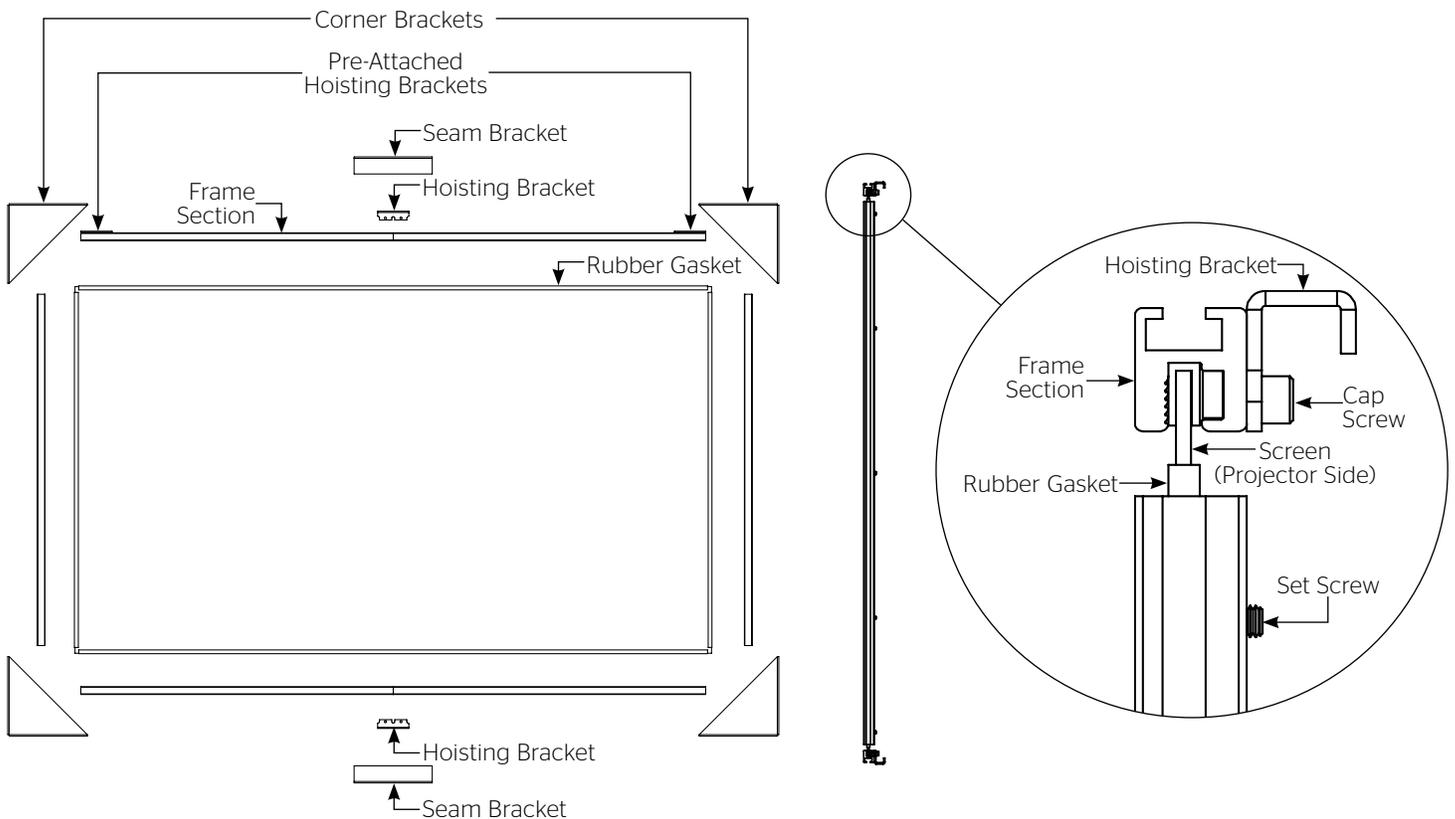

Figure 5
- Center the first rubber gasket (F) on the screen surface edge and press it into place starting at one end. Repeat this step for the three remaining sides of the screen.
- Place the frame sections (G) around the screen surface (A). Attach to frame (G) over the rubber gasket (F) with set screws facing upwards. Use a rubber mallet to gently tap the screen frame into place if needed (See Figure 5)
- Place the hoisting bracket (H) in the center of the top and bottom sections of the screen frame. Attach to frame using the provided cap screws (I) and a 3/16" hex key.
- Prepare to attach the seam brackets (J) and corner brackets (K) by carefully sliding the 3/8" x 1/2" hex head screws (L) down the frame channel (two bolts on either side of the seam and two on each side of each corner).
- Carefully slide the seam bracket (J) under the assembled frame, aligning the bracket and 3/8" screws (L) across the seam. Secure using the 3/8" thin hex nuts (M) and tighten completely.
- Repeat for corner brackets (K).